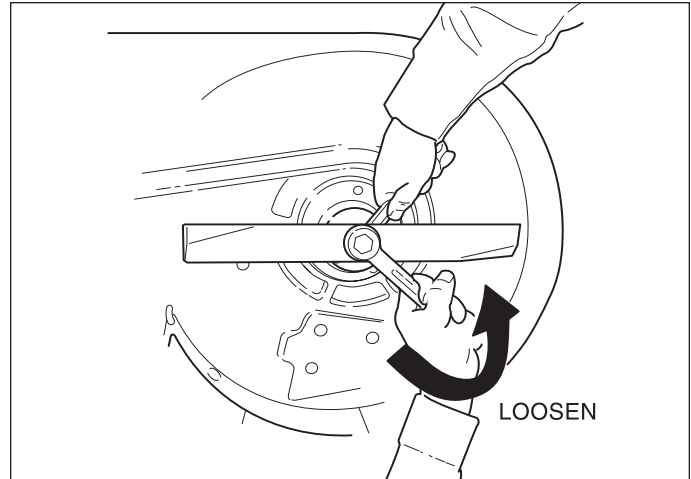

Figure 19. Removing the Blade
2. To remove blade for sharpening, use a 1" wrench on the flats of the spindle shaft while removing the blade mounting bolt with a 15/16" wrench (Figure 19).